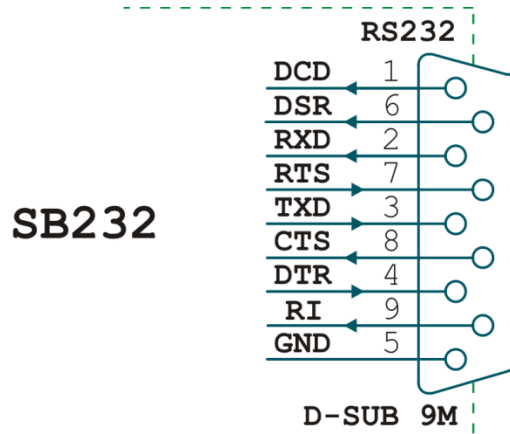

Fig. 11 – connection of the RS232 connector
**SB232:** The **RS232** line is connected via a D-SUB 9M connector (Cannon 9 male plug). The connection is illustrated in Fig. 11. (The connection is the same as on a PC.)